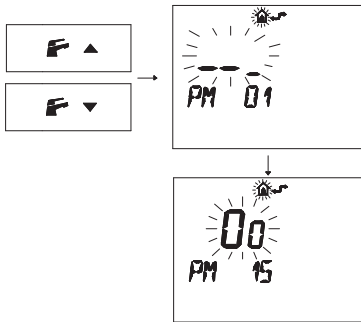

Fig. 7.13
- Press buttons **F** ▼ or **F** ▲ to display the "PM15" program that enables the external probe (Fig. 7.13)